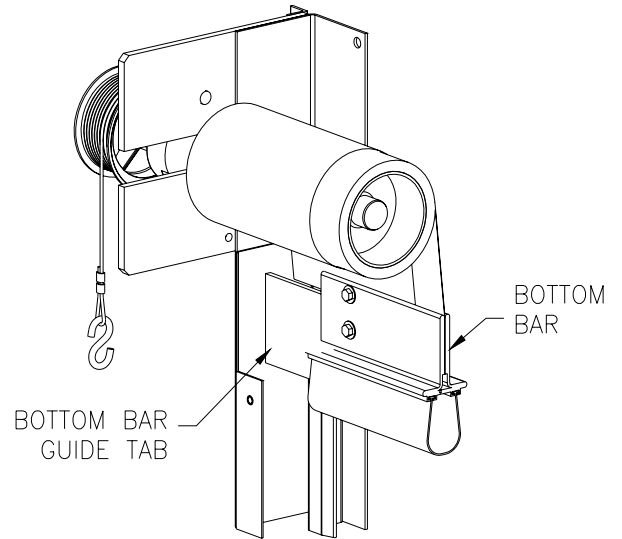

FIG. 9A
- a. **Place Counterweight** into position (Figure 9A).